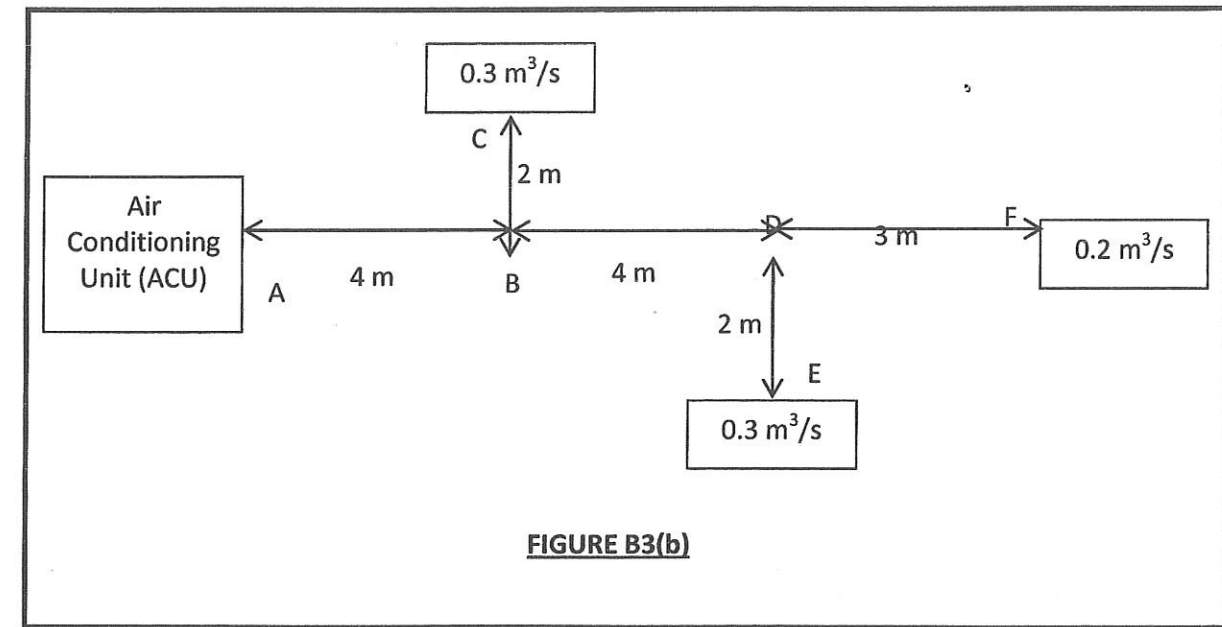

FIGURE B3(b)
- b) **Figure B3(b)** shows supply air duct system for one space. According to Chart 4.33, by using equal friction method and assuming that air velocity at duct AB is 4 m/s, calculate air volume and total friction for duct AB, BC, BD, DE and DF.